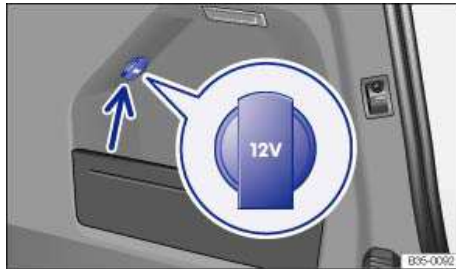

Fig. 125 In the luggage compartment: 12 Volt socket.
- In the luggage compartment ⇒ fig. 125.